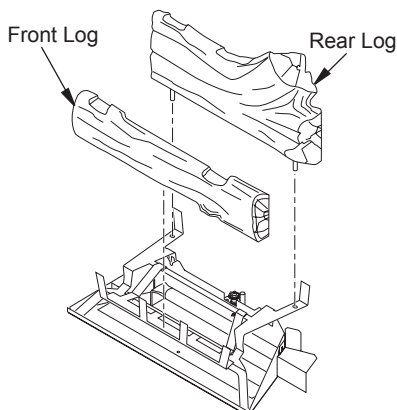

Figure 22 - Installing Front and Rear Logs
- Place front log onto front of grate sliding log all the way forward against grate fingers (see Figure 22).
- Insert pegs on bottom of rear log into holes in rear of grate (see Figure 22).